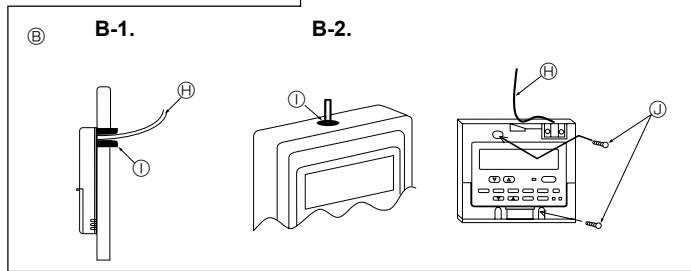

Fig. 4-2
- (2) Seal the service entrance for the remote controller cable with putty to prevent possible invasion of dew drops, water, cockroaches or insects. (Fig. 4-2)
##### [Fig. 4-2]